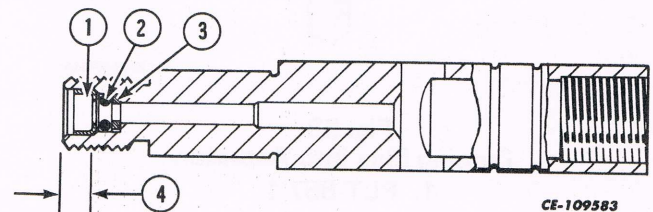
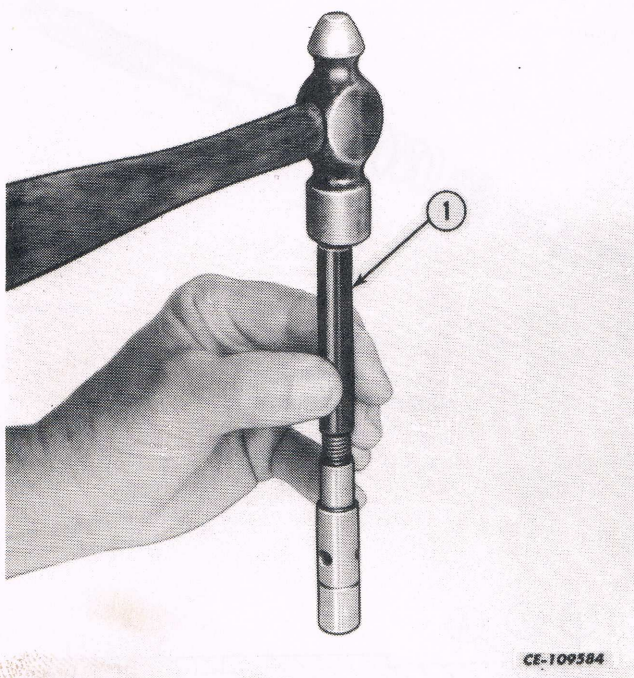

Fig. 52
Fig. 53
d. A new actuator plug (1), "O" ring (2) and back-up washer (3) is to be installed as shown in Fig. 52. Tool PLT-857-1 (1, Fig. 53) is to be used to tap the plug in the specified distance.